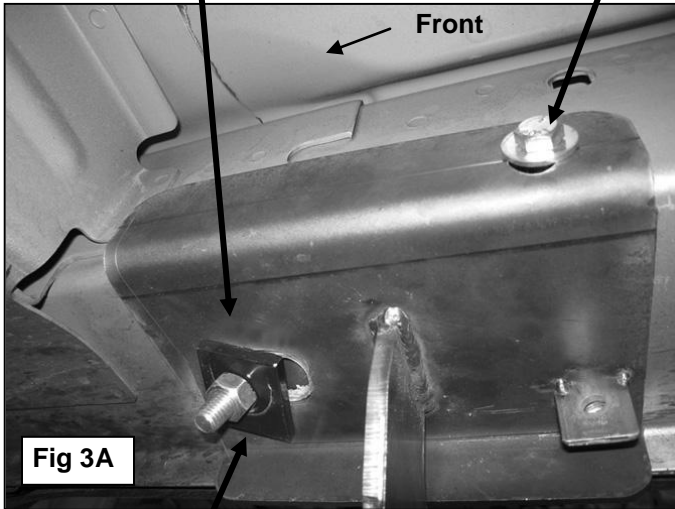

Fig 3A
- a. **On 07-09 Vehicles:** Use (1) 12mm Square Washer, (1) 12mm Lock Washer and (1) 12mm Hex Nut to secure the Bracket to the Bolt Plate, **(Figure 3A)**. Do not tighten hardware at this time.